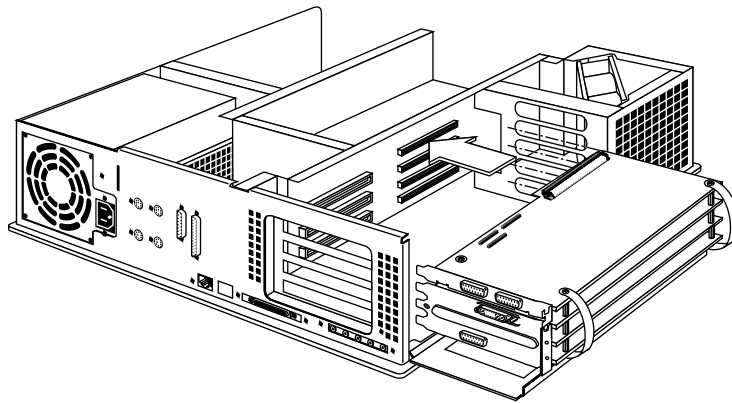

Figure 2-23 Aligning the Board Set With the Chassis
1. Align the board set with the slots on the left side of the chassis (Figure 2-23).